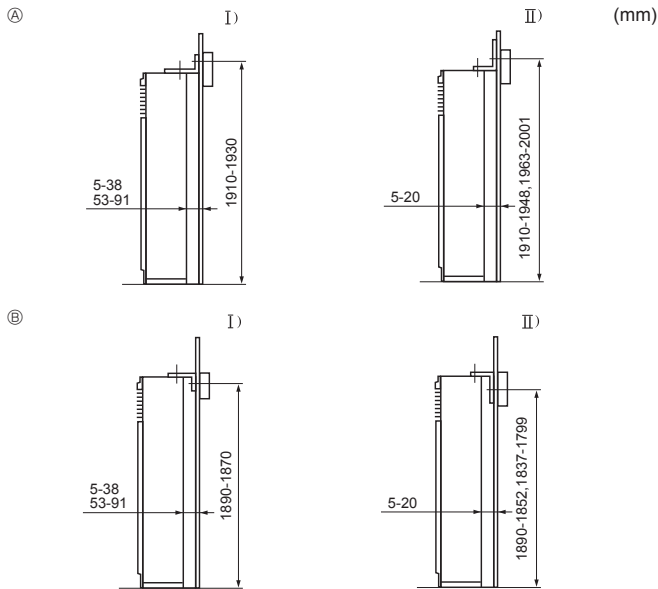

Fig. 3-3
- ① Tip-over prevention bracket
The tip-over prevention bracket ① is set on the top surface of the unit. Remove the tapping screws Ⓐ, and then reinstall the bracket, as shown in the illustration. For the proper installation distances, see Fig. 3-3.
#### 3.3. Mounting the tip-over prevention bracket (Fig. 3-3)